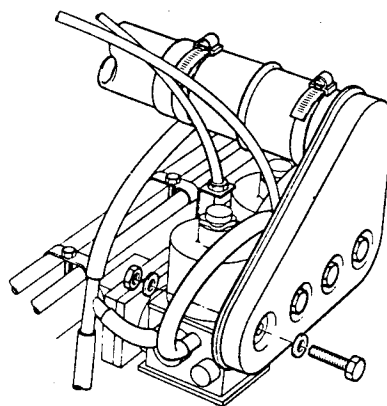

Fig C3.6
- (13) Refer to Fig C3.6. Refit the air intake box and hose.